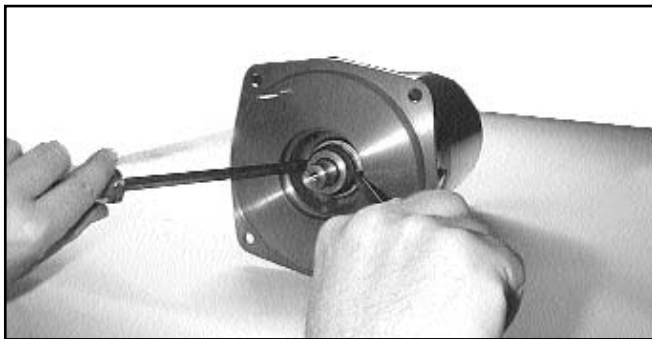

Figure 3
9. Pry off rotating member of mechanical seal from sleeve by using two (2) screwdrivers. (Figure 3)